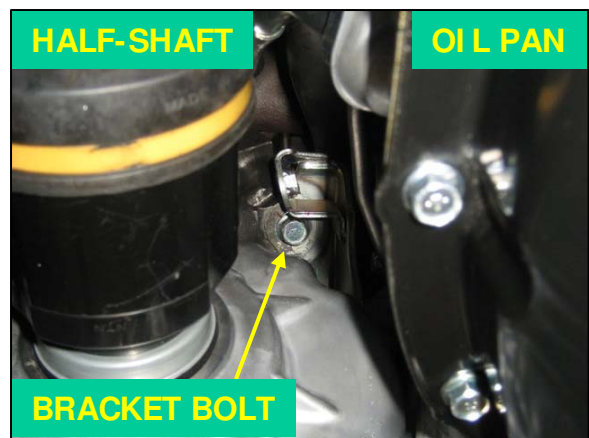

Fig. 20
23. Find the small steel bracket that connects the turbine housing to the engine block. Remove the bolt into the turbine housing. This bolt is accessible from underneath the vehicle, and is visible between the passenger-side driveshaft and the oil pan. Leave the bracket attached to the engine block. This part will be reused (1 bolt, 14mm socket, extension, u-joint). See *Fig. 20*.
44. Install the single bolt into the turbine housing support bracket. Apply anti-seize compound to bolt threads to protect against corrosion. The bracket may need to be loosened from the engine block in order to align it with the turbine housing. Ensure both bolt holes are aligned and that the bracket is in close contact with engine block and turbine housing before tightening. Torque the bolt to engine block (if necessary) to 33-43 lb-ft (44-58 N-m). Torque the bolt to turbine housing to 45-51 lb-ft (59-69 N-m) (1 or 2 bolts, 14mm socket, extension, u-joint). Refer to *Fig. 20*.